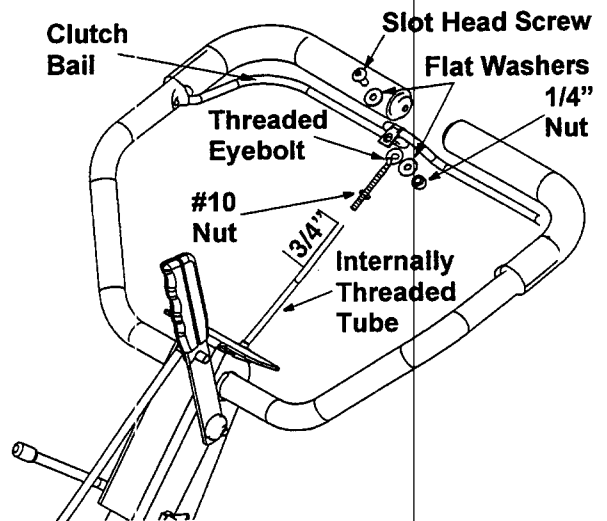

Figure 5
5. Fasten the threaded eyebolt onto bail as shown in Figure 5. The parts go together from top to bottom as follows: Slot Head Screw, Flat Washer, Clip, Eyebolt, Flat Washer and 1/4" Nut.